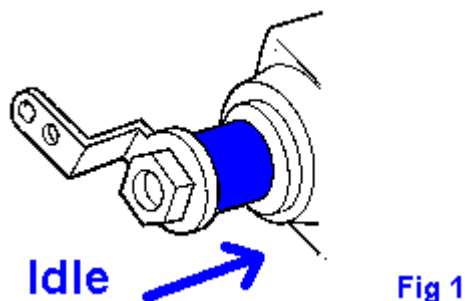

Fig 1
1. First off is to learn which way is Idle and which way is full throttle. Most carbs when you move the lever you can see the barrel slide in and outwards from the carb.. Looking at Fig 1, the blue portion is the barrel and when this portion moves inward (shortens) this is IDLE. When it moves outwards, this is FULL throttle.